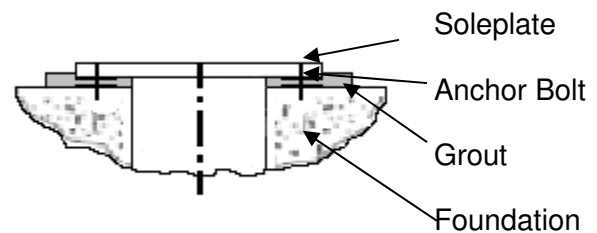

Fig 3
- A. Levelling the wedges. This is shown in **Figure 3.**